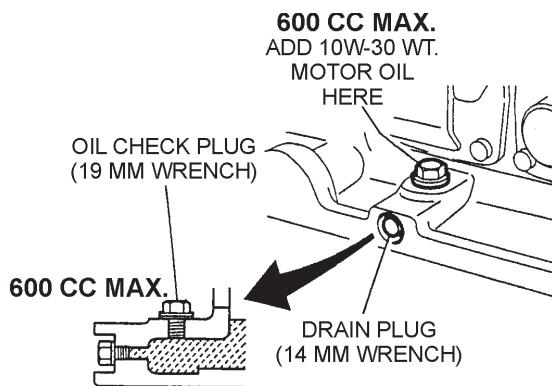

Figure 28. Vibrator Oil Drain and Check Plugs
1. In every 100 hours of operation, with the machine positioned horizontally, use a 3/4" (19 mm) wrench and remove vibrator oil level check plug (Figure 28). Visually inspect and see if vibrator oil level is up to filler port. Be sure to clean area around check hole to prevent dirt and dust from entering.
3. Using a 14 mm wrench remove the vibrator oil drain plug (Figure 28) from the vibrating plate assembly.
4. After hydraulic oil has been completely drained from machine, fill with 10W-30 motor oil to the appropriate safe operating level (Figure 28).